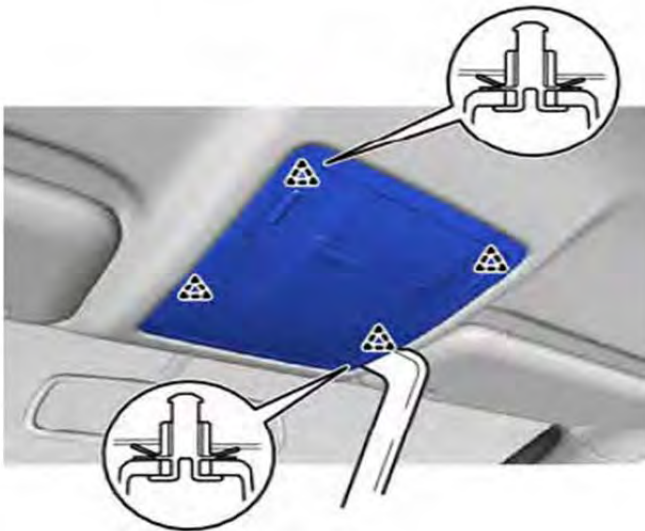

Figure 3
3. Detach the 4 clips. Disconnect the connector to remove the roof console box. Figure 3.